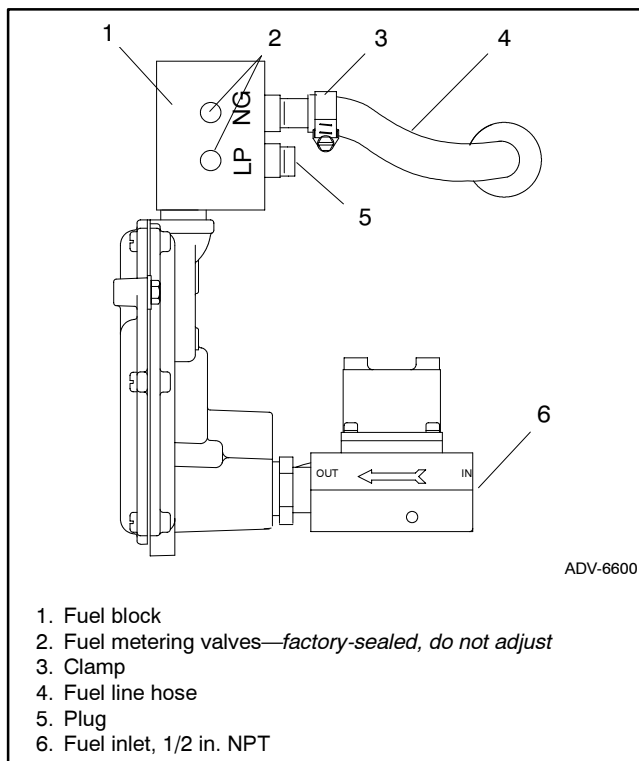

Figure 6-7 Fuel Block Connections, Natural Gas System Shown
5. Remove the hose clamp and fuel hose from the hose fitting in the fuel block. See Figure 6-7.